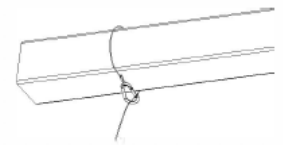

Fig. 16
4. Fasten the other end of the wire rope to the outlet box or the mounting structure of the outlet box (Fig. 16).